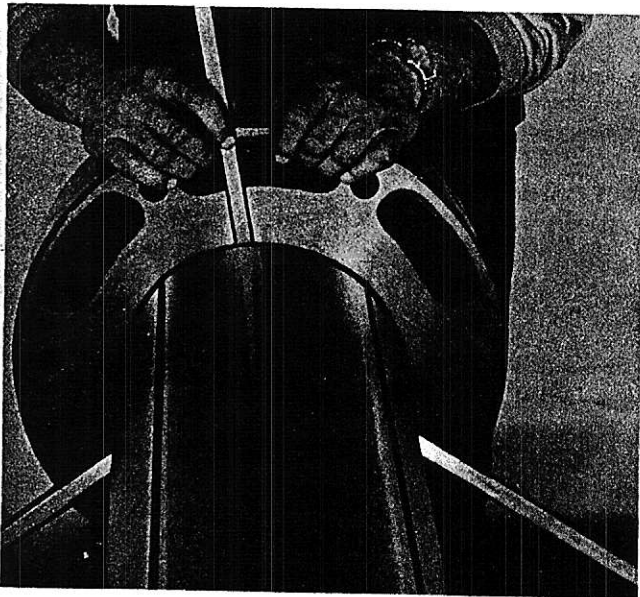

Fig. 19 Checking fixed-end clearance between rotor and front head.
- Check for maximum clearance by using three feelers, of equal thickness, inserted between face of cylinder head and end of rotor at three equally spaced points. See Fig. 19. Be sure cylinder head is pulled away from rotor face so that the clearance obtained is maximum. Actual clearance may vary plus .002", minus .000".